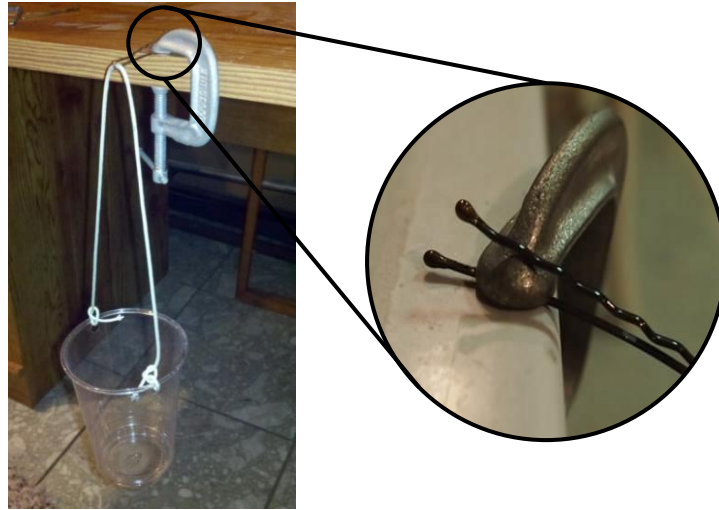

Figure 3. Test set-up
8. Punch a hole on each side of the cup and attach the twine as shown in Figure 3. Set up the control bobby pin as shown and be sure that the cup and string are hanging from the end of the bobby pin.
22. Set up the annealed bobby pin as shown in Figure 3.
29. Set up the quenched bobby pin as shown in Figure 3.